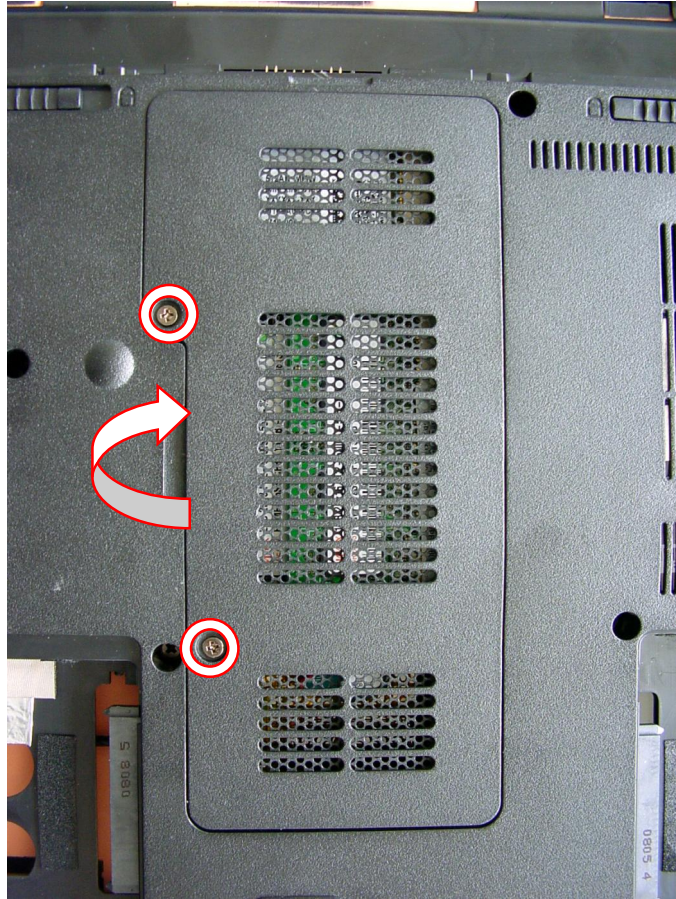

Fig. 9 Removing memory compartment cover.
2. Lift the cover upwards from the left. There are three tabs holding the cover in place on the right. Raise the cover until you can remove it from the casing (see Fig. 9).
1. Remove the two screws securing the wireless LAN compartment cover (see Fig. 9).
1. Remove the two screws securing the TV tuner compartment cover (see Fig. 9).
1. Remove the two screws securing the Intel Turbo Memory compartment cover (see Fig. 9).